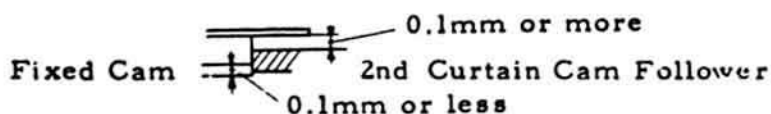

Fig. 24
- 2) The heights of the Follower and fixed Cam are as shown in Fig. 24. For adjustment, use Washers (X32-502320 to 1) x n, (X98-020206), and choose a suitable Lever. Fig. 24